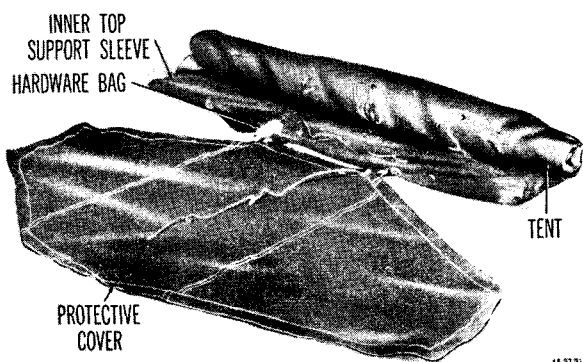

Figure 89. Folding tent, maintenance, missile test shop.
(b) Drive guy line tent pins into the ground, and attach and tighten guy lines to pins (fig 89).
(7) Unfasten tent tiedown tabs, and remove top outer support from the tent.
(8) Remove tent inner top support from the top of the radar set group cabinet, and remove the tent from the radar.
e. Folding (fig 89).
(1) Close all slide fasteners and lay tent out flat, inside up.
(2) Fold tent sides onto the tent, and roll tent toward inner top support. Insert a section
(1) Remove footstops from footstop pins, and remove the pins from the ground.
(2) Remove tent short wall and tent side-walls from turnlock fasteners.
(3) Remove diagonal side supports from U-channels of the pallet and from the tent outer top support.
(4) Unfasten tent tiedown tabs, and remove the top outer support from the tent.
(5) Remove the tent inner top support from the top of the radar set group cabinet, and remove the tent from the radar.
(1) Close personnel access door and lay tent out flat, inside up.
(2) Fold tent sides onto the tent, and roll tent toward inner top support. Insert a section of the frame with each roll. Insert the hardware bag before making the last roll of the tent.
(3) Place rolled tent on cover and secure cover with the provided ropes.
(5) Remove the side top supports.
(6) Remove tent inner top support from the top of the radar set group cabinet, and remove the tent from the radar.
e. *Folding* (fig 89).